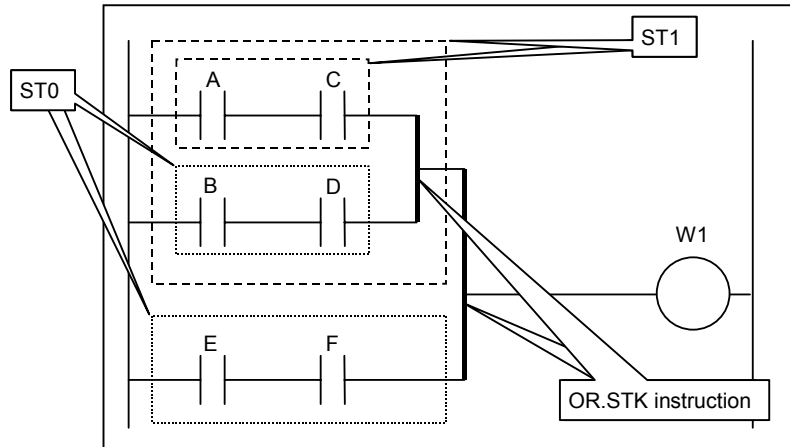

Fig. 4.1.13 (b)
- (1) The OR.STK instruction finds the logical sum of the operation result stored in the ST0 bit and that stored in the ST1 bit and sets it in the ST1 bit. The instruction then shifts the register content one bit to the right and puts the resulting logical sum into the ST0 bit. Fig. 4.1.13 (b) shows a detailed image of what is shown in Fig. 4.1.13 (a).
- (2) For examples of how the OR.STK instruction is used, see Fig. 4.1.13 (a) and Table 4.1.13.